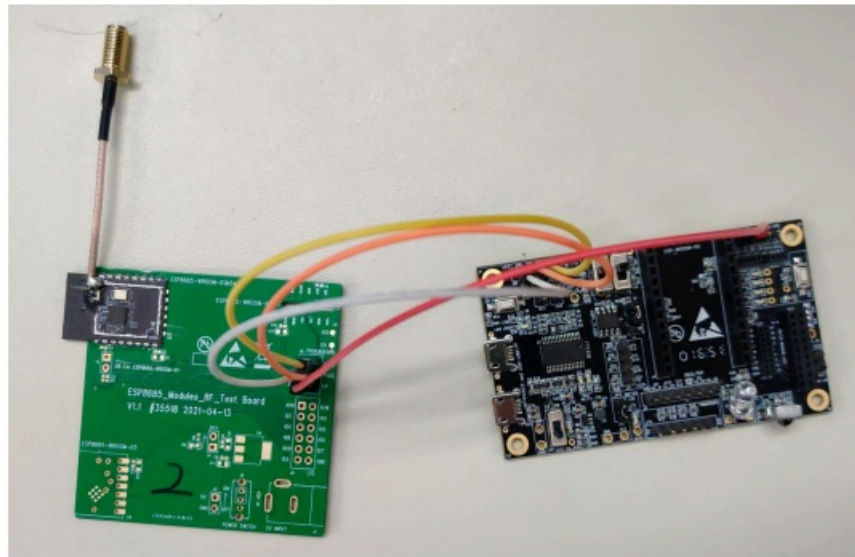

Figure 2: Hardware Connection
1. Solder the ESP8685-WROOM-04 module to the RF testing board as shown in Figure 2